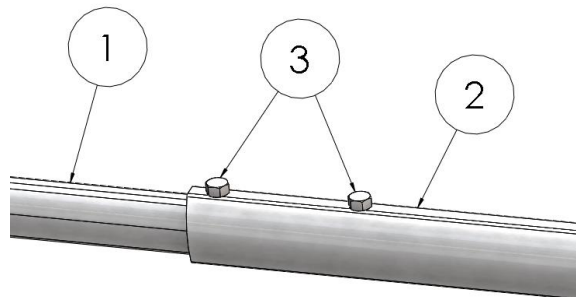

Figure 4.8
Insert upper arms (1) into lower arms (2). Install set screws (3), but do not tighten (Figure 4.8).